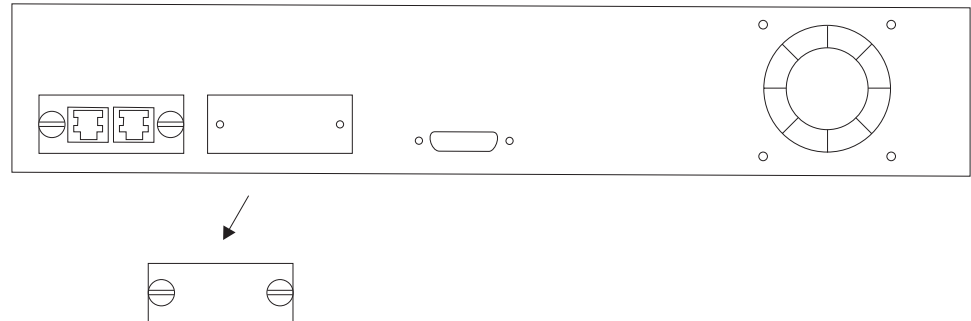

Figure 2-4. Removing the Blank Expansion Module Panel
- Step 2.** Remove the installed expansion module, or blank cover, by turning the two knobs on the back counterclockwise as shown in Figure 2-4.